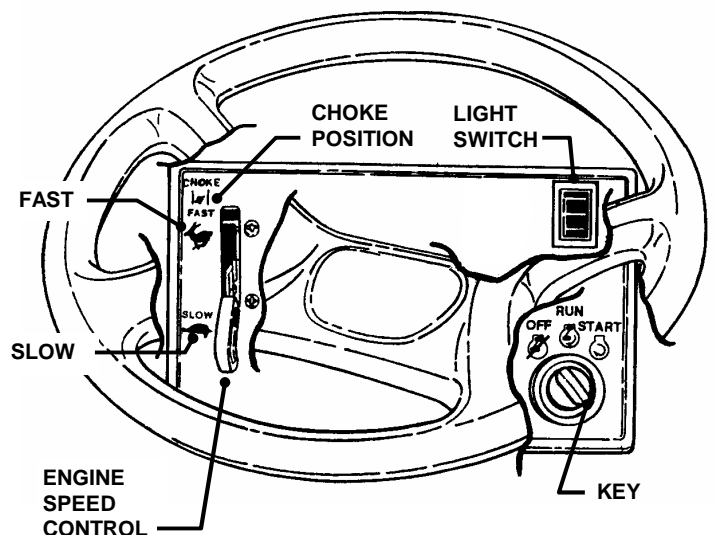

FIGURE 2.6
5. Choke engine for cold starting by moving engine speed control to "CHOKE" position. Little or no choking will be needed when restarting a warm engine. Insert key in switch. Turn key to "START" position to crank engine and hold until engine starts, then release key. See Figure 2.6.
6. After engine starts, release key, move the engine speed control to "FAST" position and allow engine to warm up before proceeding. See Figure 2.6.